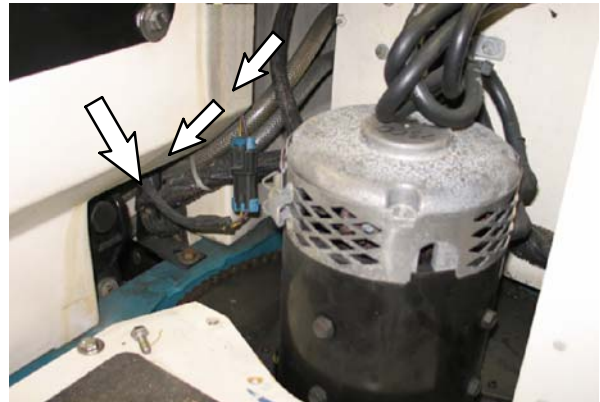

FIG. 9
11. Route both 45" (1140 mm) hoses from the operator compartment, along the main harness (away from the actuator and other moving parts), and down to the scrub head. Refer to Fig. 9.